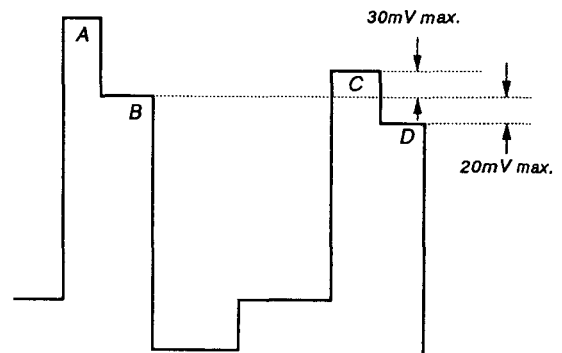

Fig. 10
5. Using **R-Y LEVEL COMPONENT**, adjust so that the tops of the waveform line up as in the diagram below. (Fig. 10)